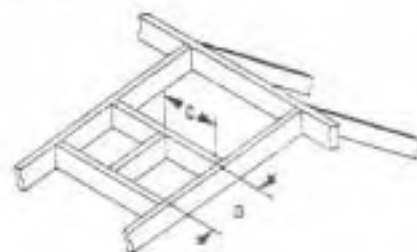

Figure 20
E. At transition from or to a horizontal/inclined run, the _DST5-90ELB/_DST5-45ELB/_DVSP5-90EL5 elbows install in the same manner as the straight vent sections. Apply _Mill-Pac Black (700°F) high temperature sealant to the inner joints. Slip the inner elbow over the straight inner vent section. Secure with two (2) screws. Slide the outer elbow over the inner elbow, slip down over the outer vent section. Secure with two (2) screws.
H. Identify location for vent at the roof. Cut and/or frame opening per Roof Framing Chart and Figure 20.